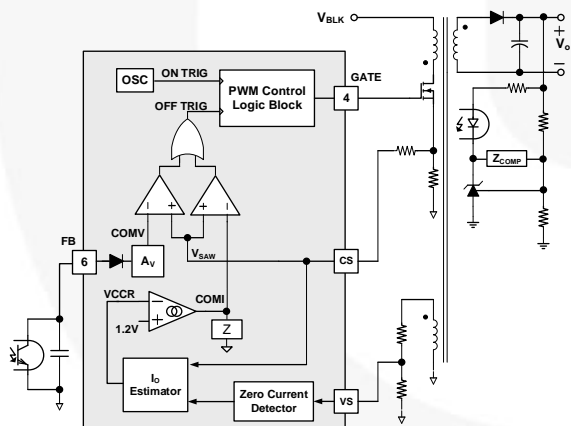

Figure 37. Simplified PWM Control Circuit
Figure 37 shows a simplified CV / CC PWM control circuit of the FAN602. The Constant Voltage (CV) regulation is implemented in the same manner as the conventional isolated power supply, where the output voltage is sensed using a voltage divider and compared with the internal reference of the shunt regulator to generate a compensation signal. The compensation signal is transferred to the primary side through an optocoupler and scaled down by attenuator  $A_V$  to generate a COMV signal. This COMV signal is applied to the PWM comparator to determine the duty cycle.